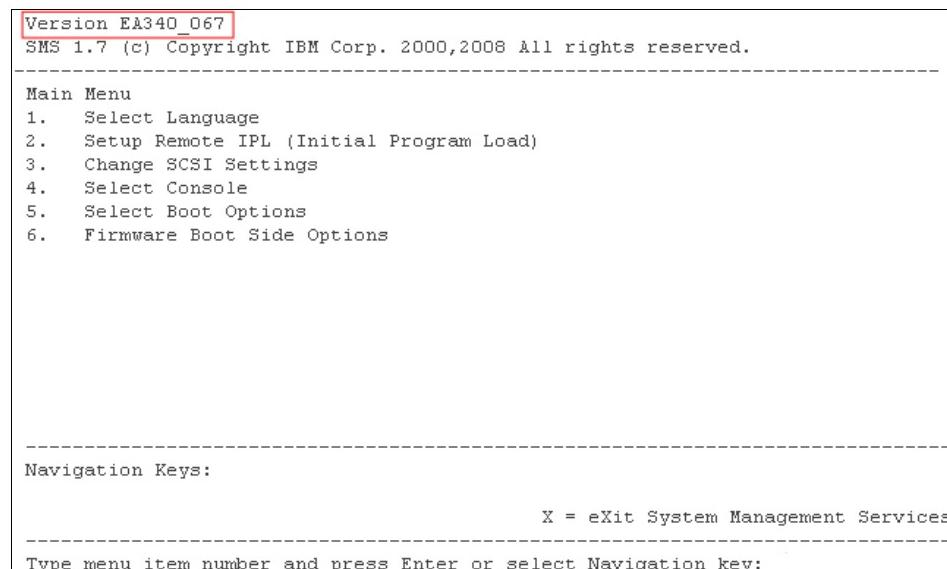

Figure 12-9 Firmware level inside the SMS main menu
2. Figure 12-9 shows the SMS main menu. In the left upper corner you can find the current firmware level.